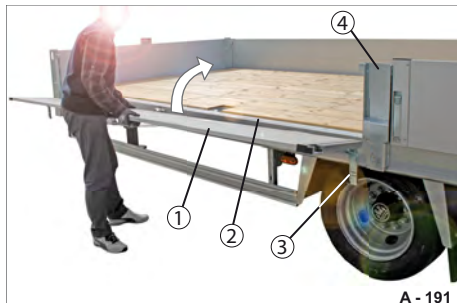

Fig. 126 Closing the platform gate
- ▶ If necessary, insert the middle post (Fig. 126/4) into the post pocket.
- ▶ Check before folding up that the platform gate fasteners (Fig. 126/3) are opened.
- ▶ If necessary, clean to remove dirt along the loading edge (Fig. 126/2) on the chassis.
- ▶ Fold the platform gate (Fig. 126/1) up with both hands.